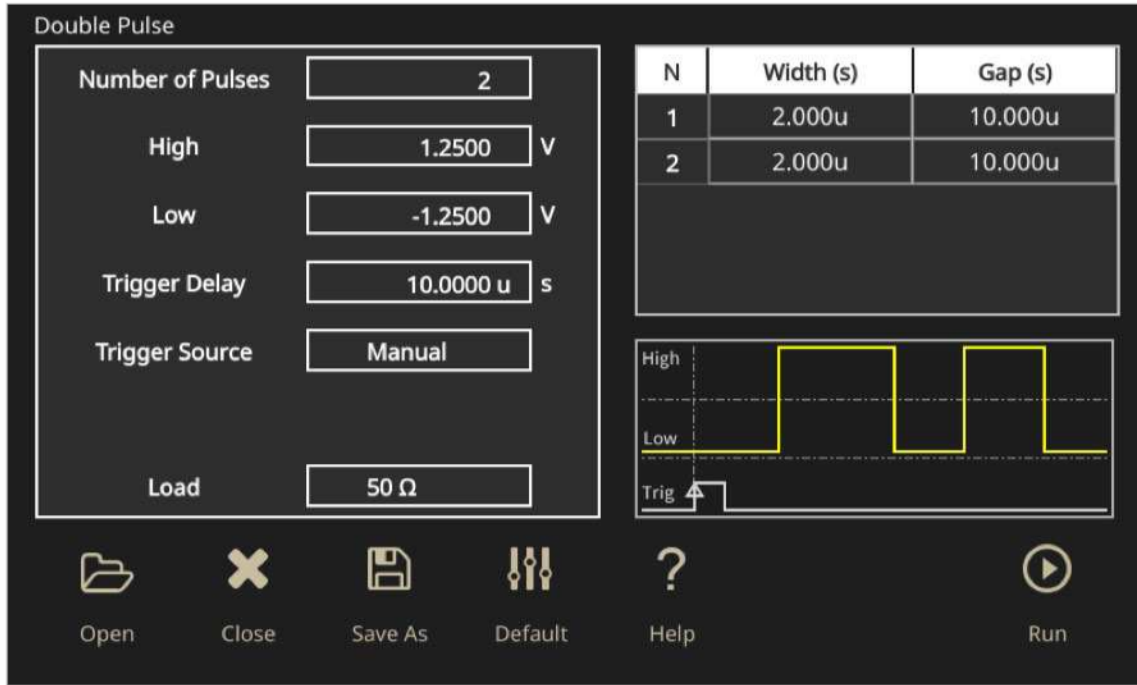

Figure 11: Double Pulse Double Pulse Test application on the AFG31000.
**Figure 11** shows the Double Pulse Test application window. Here the user can set the:
- High and low voltage magnitude (V)